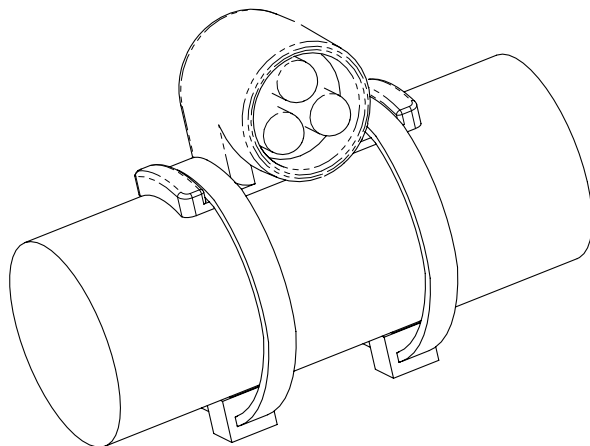

Figure 5
- Fasten with *Large Cable Ties* as shown in Figure 5.